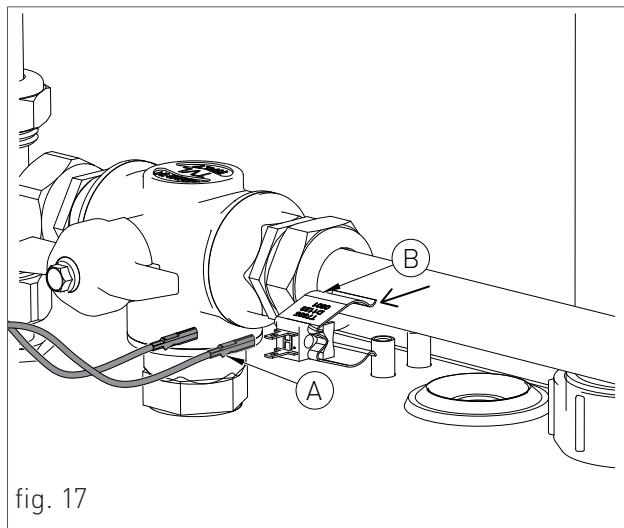

fig. 17
- › disconnect the two faston of the recirculation probe (see A-fig.17) and connect them onto the optional extension cable (cod.: 65-00677).
- › Move the recirculation probe from the water heater (see B – fig.17) to the recirculation loop, see the scheme 'COMBINATION MODE (DHW + HEATING) WITH EXTERNAL RECIRCULATION LOOP' chapter 'OPERATIONAL SCHEMES'; and connect the optional extension cable to the recirculation probe.